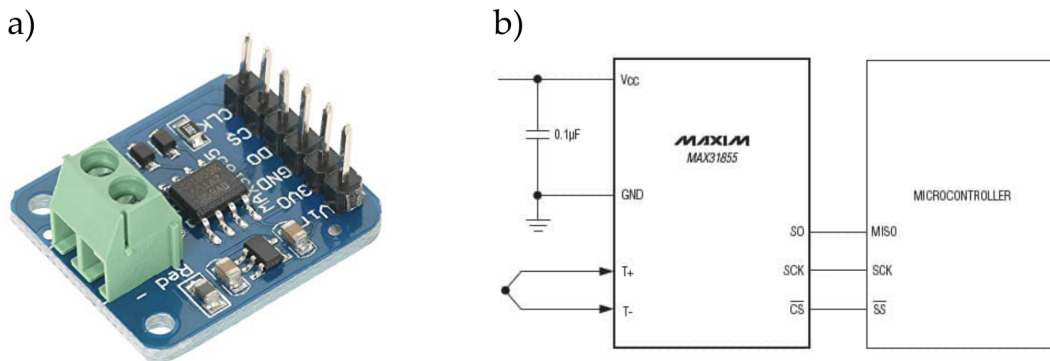

FIGURE 2: a) Adafruit MAX31855K assembled breakout board and b) connections schematic to the chip itself.
A convenient integrated circuit (IC) chip to use for this purpose is the MAX31855K from *Maxim*, which is optimised specifically for the K-type thermocouple, and whose schematic is shown in Fig. 2 b). This chip performs cold-junction compensation by measuring its internal
The MAX31855K can be purchased already on a breakout board (for example, from Adafruit here: [www.adafruit.com/product/269](http://www.adafruit.com/product/269)), which already has the necessary 3.3 V regulator for the power supply, along with level-shifting between 3.3 V and 5 V for the various communication lines. This breakout board is shown in Fig. 2 a).